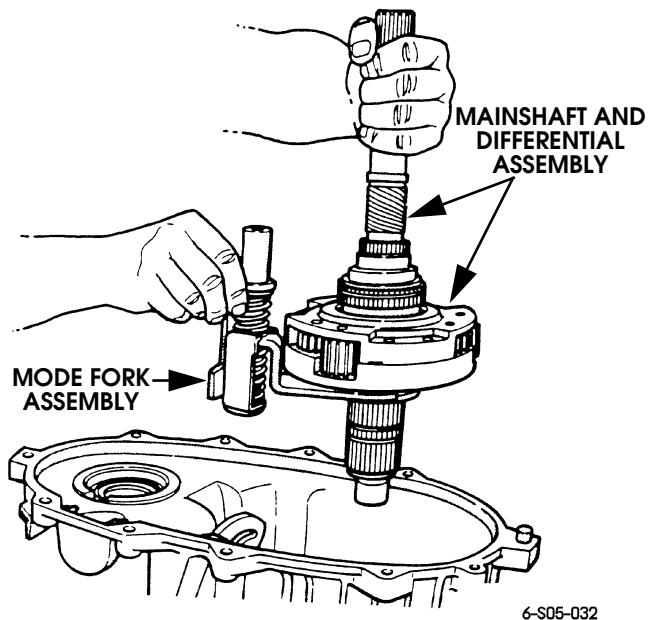

Figure 5-97: Mainshaft, Differential and Mode Fork Removal
19. Remove mainshaft, differential, and mode fork as assembly (Figure 5-97).